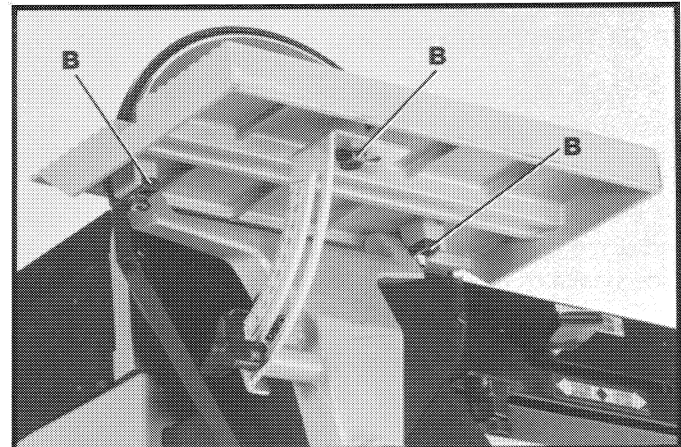

Fig. 31
3. If an adjustment to the table is necessary, loosen the three screws (B) Fig. 31, that fasten the table to the table mounting bracket and trunnion and adjust the table accordingly - then tighten three screws (B).